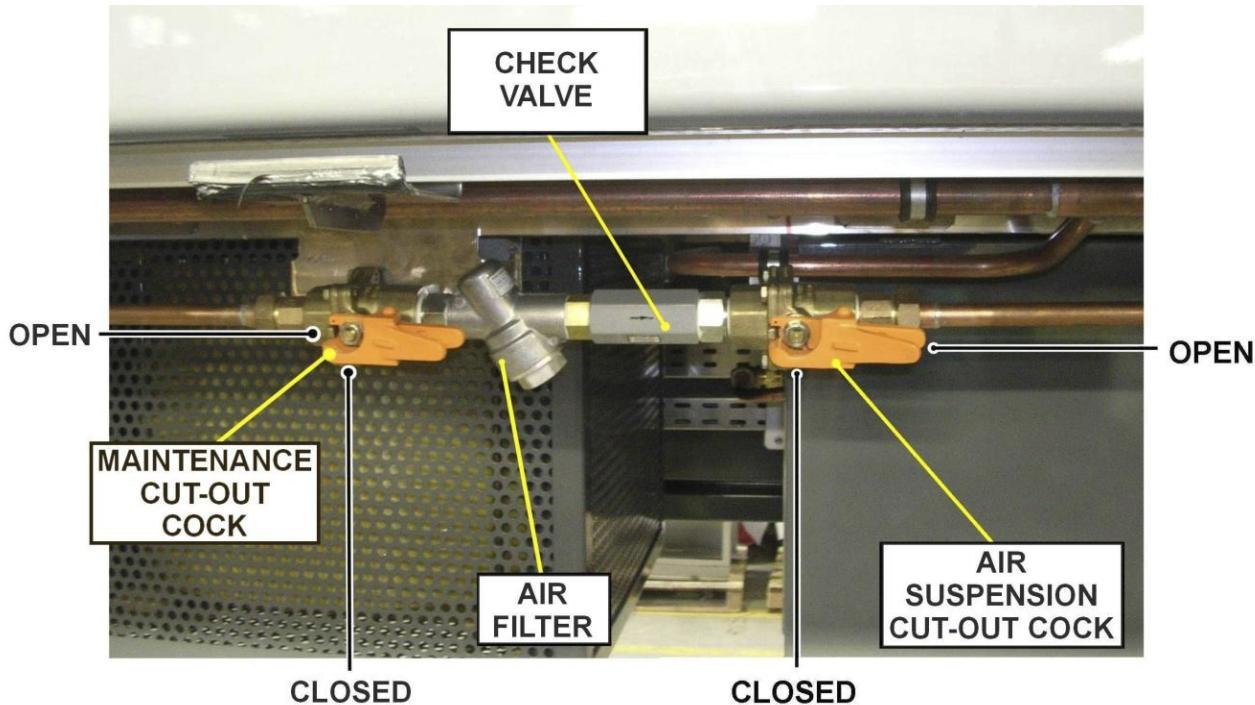

Figure 1 - SUSPENSION MAINTENANCE CUTOUT COCK
9. Vent pneumatic pressure from Air Piping by closing the Air Suspension Cut Out Cock (Refer to Figure 1).
5. Install Plug (2) on Air Reservoir (1).
6. Connect the Air Reservoir to the pipeline by means of Adapter (5).
7. Pressurize Air Piping by opening Air Suspension Cut Out Cock (Refer to Figure 1).